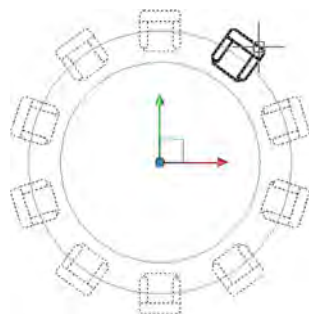

FIGURE 8.6
- **Edit Source.** This option allows you to edit and modify the source object. These changes are then reflected in the overall array. If you forget which object was the original source, it does not matter; you can pick any of the chairs and work on it. Execute the command, say 'Yes' if you see the Array editing State dialog box, select the object, modify it, and when done, type in `arrayclose`, or click on Save Changes on the Ribbon at the far right. Figure 8.6 shows Edit Source in progress.